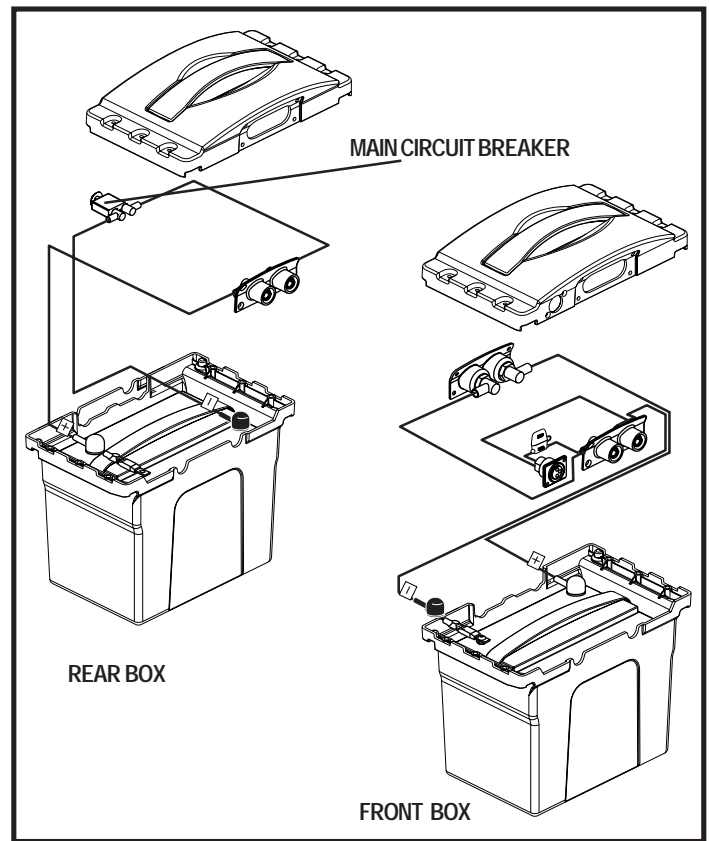

Figure 29. Battery Boxes
6. Place new batteries in the battery boxes. See figure 29.